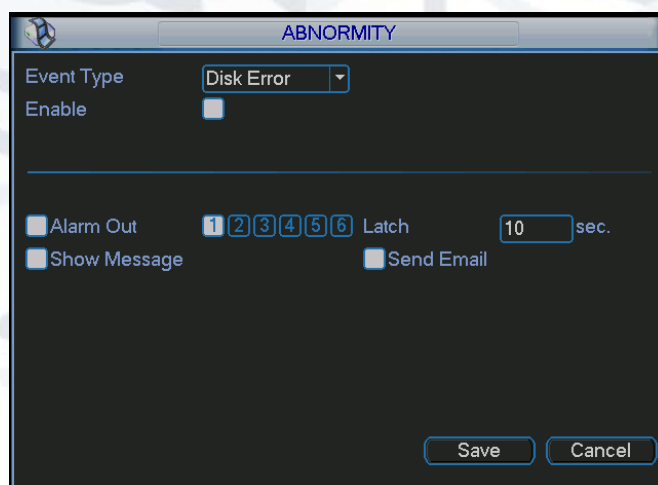

Figure 4-78
- **Alarm set:** Click the alarm set button, the interface that appears is shown below (see Figure 4-78) (This interface is just like the abnormality setup). Please refer to **chapter 4.7.2** for detailed information.